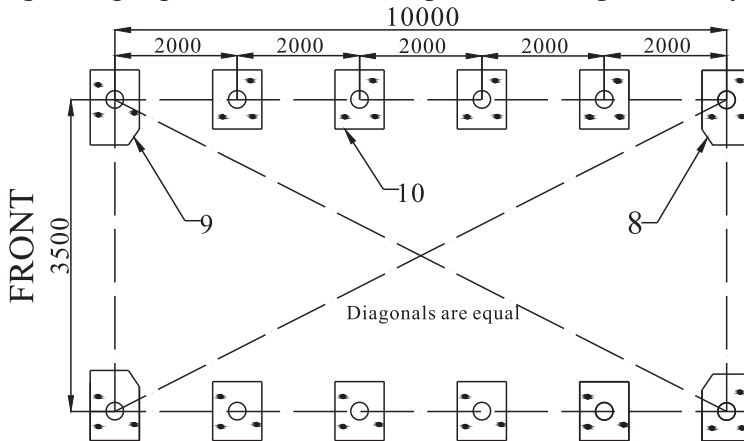

Figure 2 Position of Base Flanges
Begin by determining exact location of the four (4) corners of the building. Mark front edge and side-to-side width of assembly on ground. Drive alignment stakes into the ground outside of the markings, and draw alignment strings along both ends and sides of the building to the dimensions shown in Figure 2. The outline of the strings will represent the final location of the base flanges. The initial location of each Corner Base Flanges is critical to the alignment and fit of the frame components and cover.
Locate the Left Corner Base Flange and Right Corner Base Flange (part #5). Secure the base flanges with Stake Pegs (Part #24). Measurements shown in Figure 2 are to the center of the upright sockets on each Base Flange.